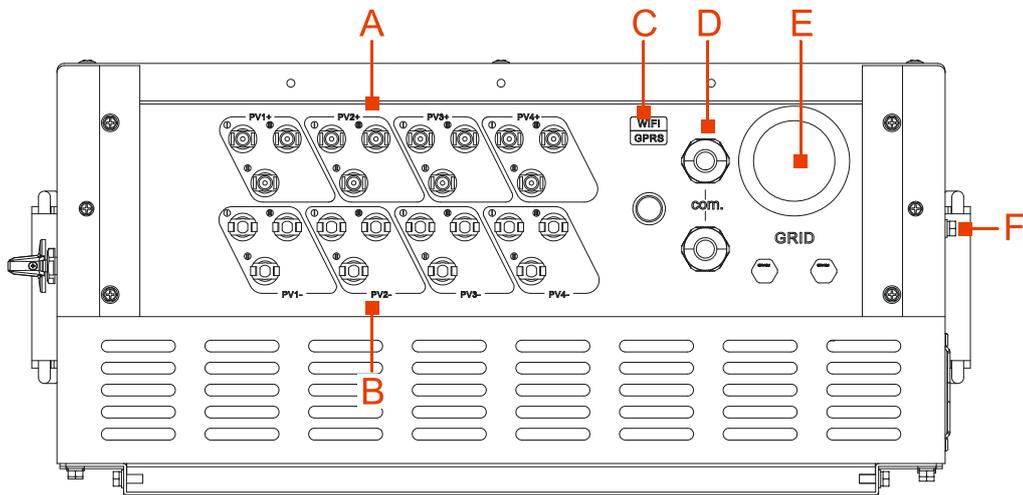

Figure3-9 Connection
The wiring for inverter be performed in the bottom of inverter. The points of connection is as shown in Figure3-9, and the meaning is as shown in Table3-1 The recommended wire requirements is as shown in Table3-2.
1. As the Soleil SRT 30K, Soleil SRT 33K and Soleil SRT 36K have six DC input, the three DC input in the mark PV3+, PV3-, PV4+ and PV4- of Figure3-9 don't connect with PV connector. Use plugs to block them.
2. As the Soleil SRT 40K has nine DC input, the three DC input in the mark PV4+ and PV4- of Figure3-9 don't connect with PV connector. Use plugs to block them.